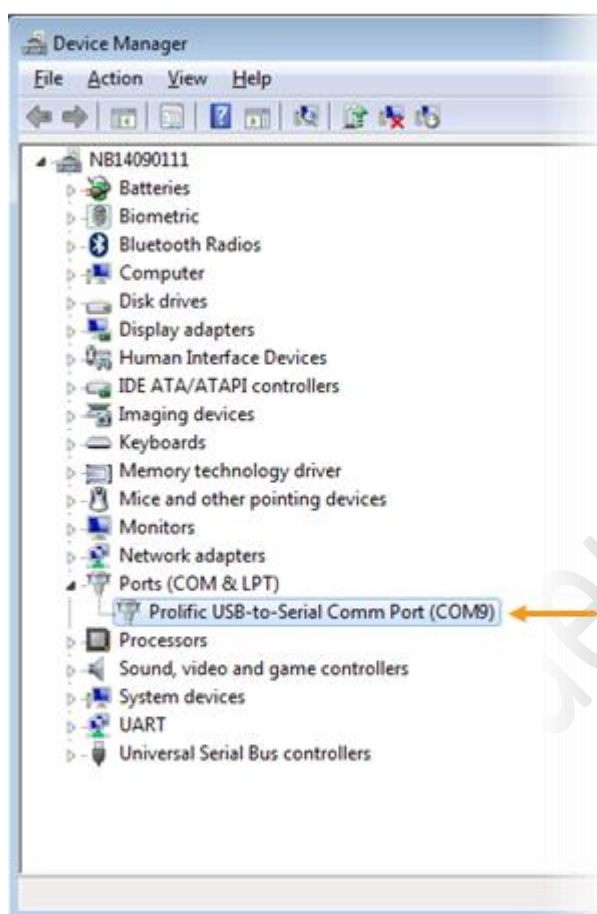

Figure 2. Enumerated COM port on the host
- b) In **Device Manager**, navigate to **Ports (COM & LPT)** (see Figure 2).
- d) A new **COM** device should appear under **Ports (COM & LPT)** in **Device Manager**, as shown in Figure 2. Note the **COMx** port number of the serial communication port; this information is needed to complete configuration of the Tera Term terminal program.